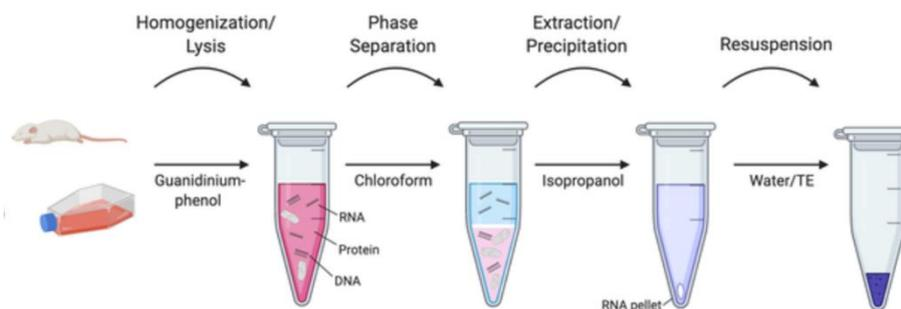

Figure 2 - Schematic of the different steps in RNA extraction (taken from Addgene: <https://www.addgene.org/protocols/kit-free-rna-extraction/>)
- The sample will have 3 layers (see Figure 2): clear aqueous layer = contains RNA, fluffy white interphase layer = cell debris, red organic layer = contains phenol and chloroform.